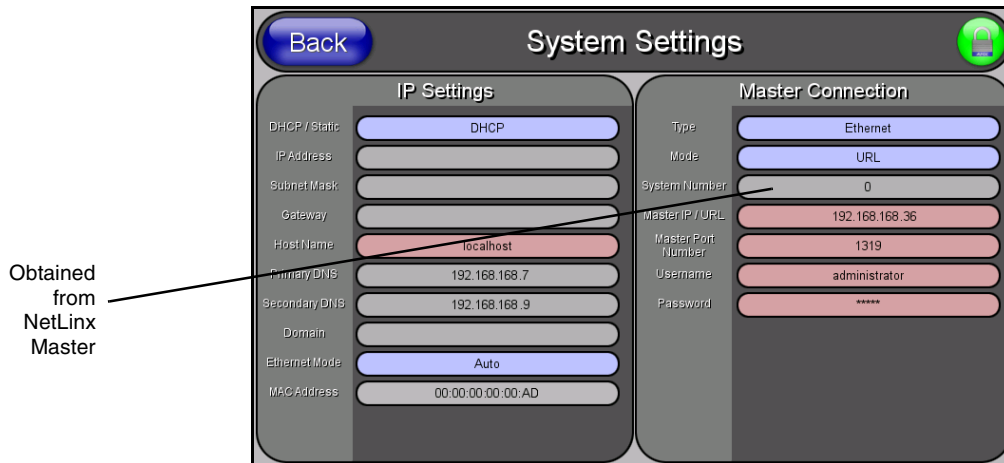

FIG. 68 System Settings page
7. Select **Protected Setup > System Settings** (located on the lower-left) to open the System Settings page (FIG. 68).